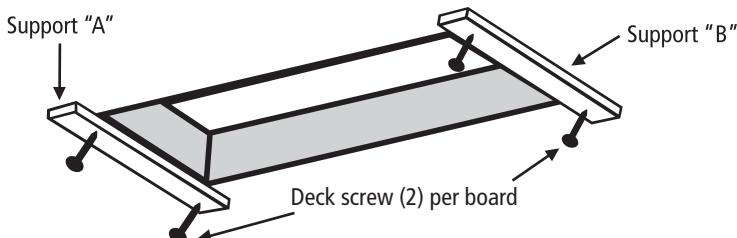

FIGURE 4: View from below
A. Attach temporary supports "A" and "B" with 2 1/2" deck screws as shown in Figure 4.